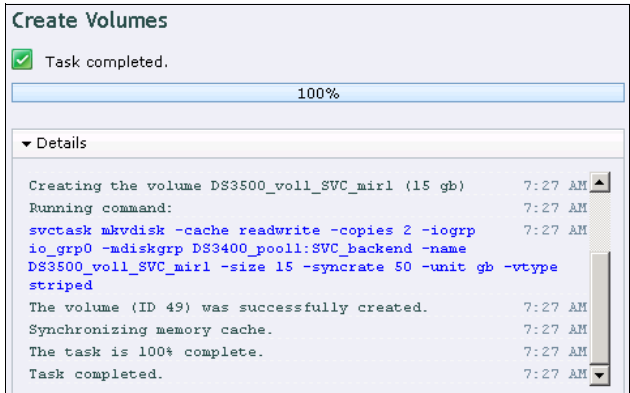

Figure 5-13 Create a mirrored volume
4. Click **Create and Map to Host**; the mirrored volume is created (Figure 5-13).